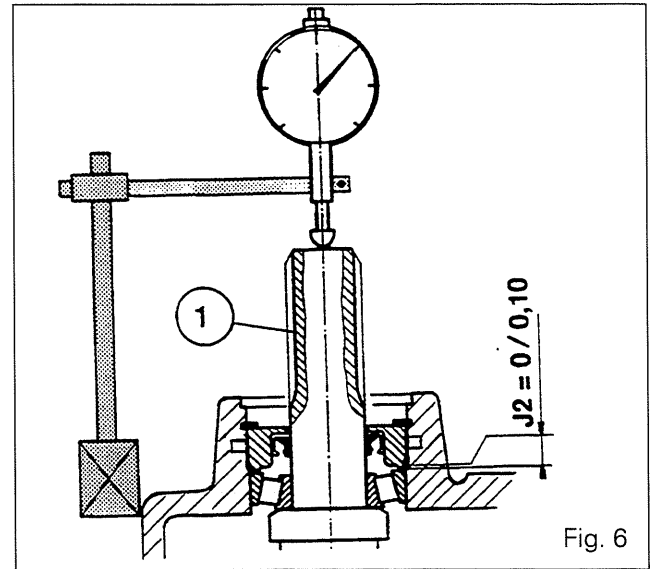

Fig. 6
**J2 = 0 to 0.10 mm** (Fig. 6)
45. Position the comparator feeler at the end of the shaft **(1)** (Fig. 6).